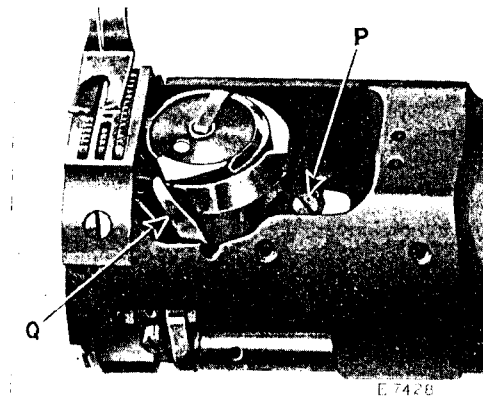

Fig. 23. Adjustment of Mechanical Opener
The bobbin case lever (Q, Fig. 23) at the left of the sewing hook, actuated by the eccentric on the hook washer, strikes the
The bobbin case lever (Q) may be adjusted by loosening the bobbin case lever fulcrum screw (P, Fig. 23) and moving the fulcrum forward or backward.